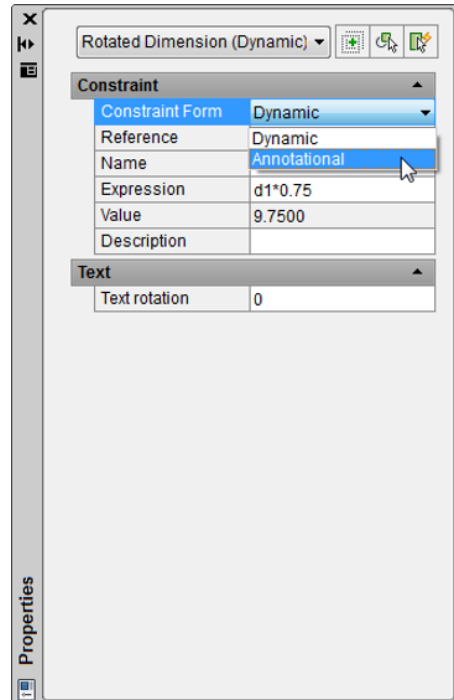

FIGURE 19-15: Turning dynamic constraints into annotational ones.
3. Click in the **Constraint Form** field, and in the drop-down list, change **Dynamic** to **Annotational** (see Figure 19-15).